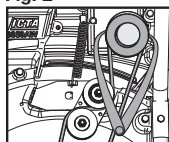

Fig. 3
2. Check ground speed lever is set to maximum. The diameter of Belt must be between 43.5mm and 45mm (fig. 3).